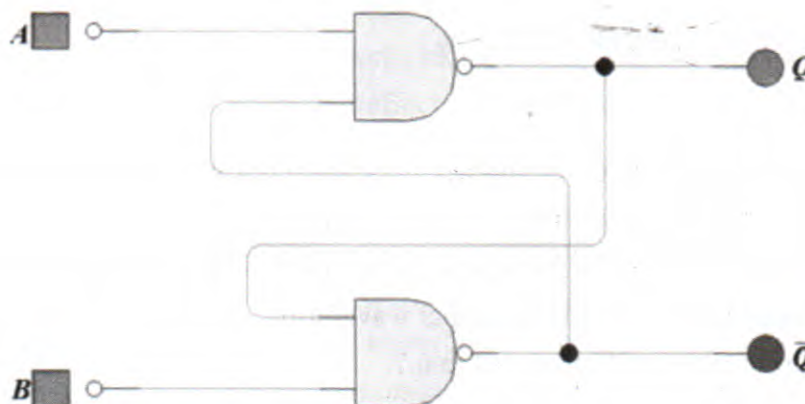

Fig 6.1: Diagram of NAND gate Latch
- ❖ **Latch:** It is the most common form of logic memory gates and it can be designed using either NAND gate or NOR gate. Latch is more sensitive to input change compared to flip flop. Figures 6.1 and 6.2 show the circuit diagrams of NAND gate and NOR gate Latches.